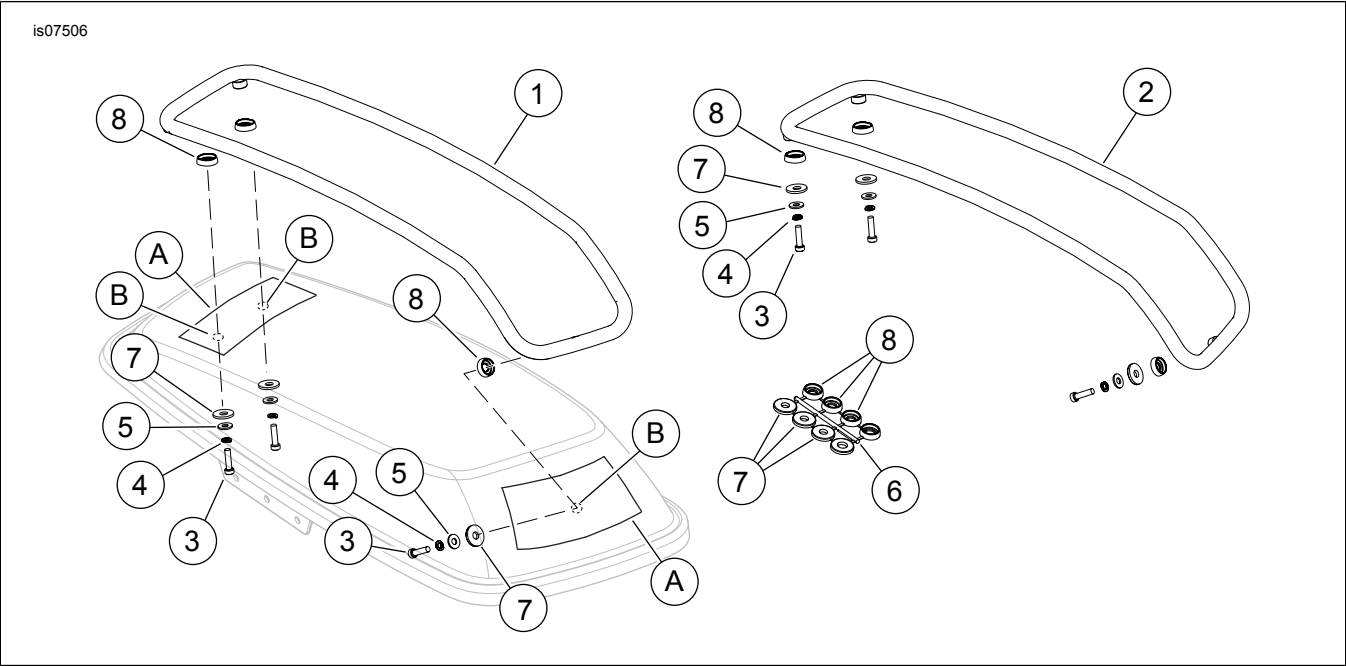

Figure 1. Service Parts: Premium Saddlebag Rails
See Figure 1 and Table 1.
2. See Figure 1. Locate the three drill points (B) on the inside of the saddlebag lid.
3. Place a piece of 50 mm (2 in) wide masking tape (A) on top of the lid over the drill points. The tape will help prevent paint chipping.